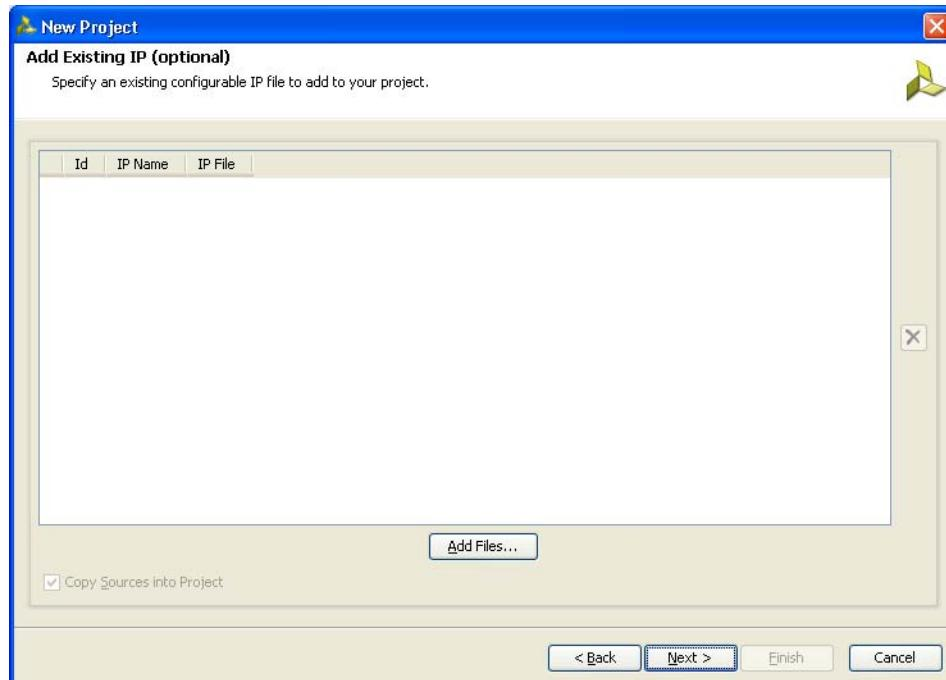

Figure 3-6: Add Existing IP (Optional)
6. Click **Next** to open the **Add Existing IP (Optional)** page (Figure 3-6). If the IP is already created, the XCI file generated by the IP can be added to the project and the previous created IP files are automatically added to the project. If the IP was not created earlier, proceed to the next page.